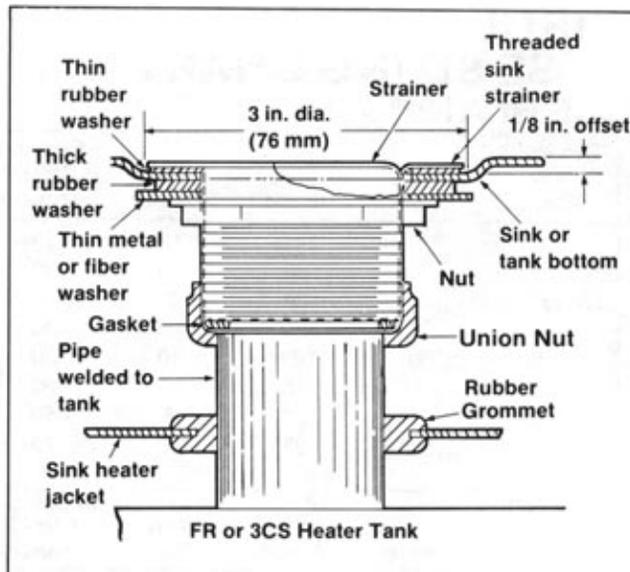

Figure 8. Installation Sink Strainer
4. See Figure 8. In both of the 2 in. holes, install a male threaded sink strainer with a thin gasket between the strainer flange and the bottom of the holding vessel.